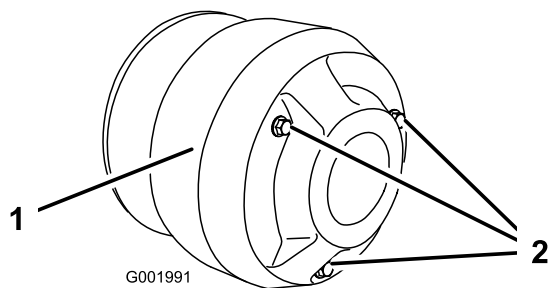

Figure 56
4. Remove the 3 bolts securing the cover to the clutch and remove the cover (Figure 56).